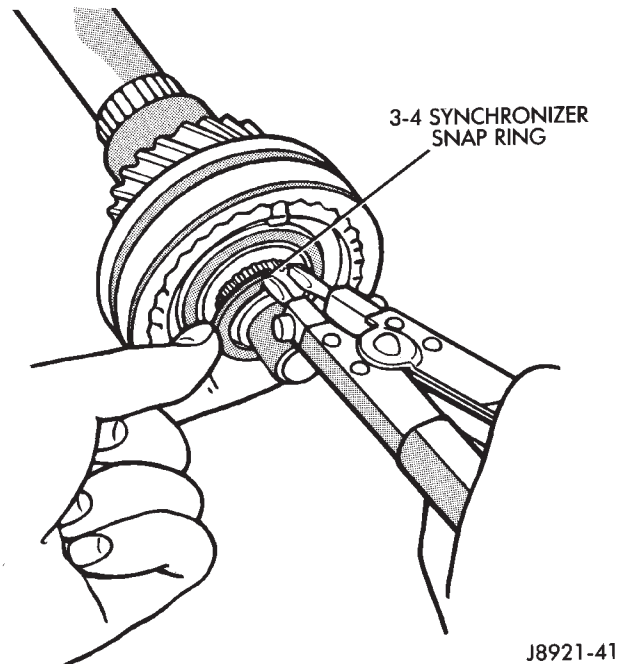

Fig. 106 Remove 3-4 Synchronizer Snap Ring
(9) Remove second gear needle roller bearing from the output shaft or second gear.
(10) Remove select fit snap-ring holding the 3-4 synchronizer onto the output shaft (Fig. 106).